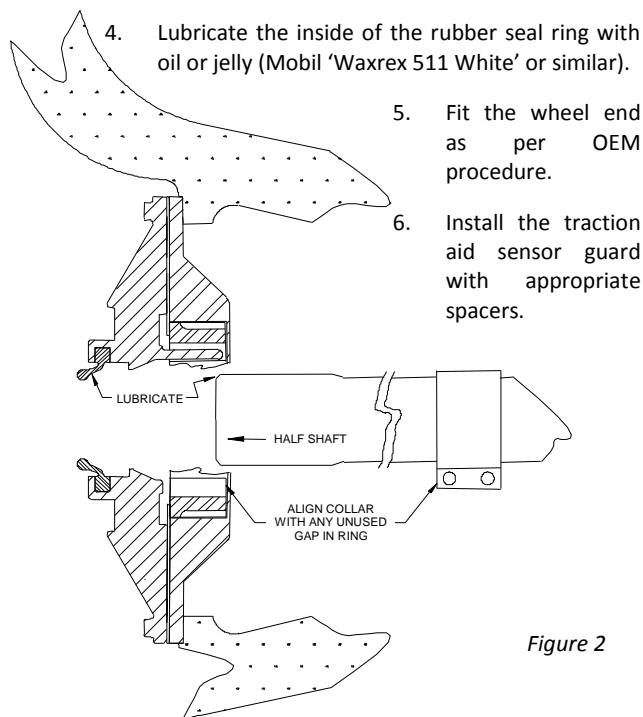

Figure 2
10. Insert half shaft ensuring that the drive collar clamp is aligned with a notch in the traction aid ring (6G0969). Note that when an isolation seal is fitted there are two less useable notches in the traction aid ring (see Figure 2).